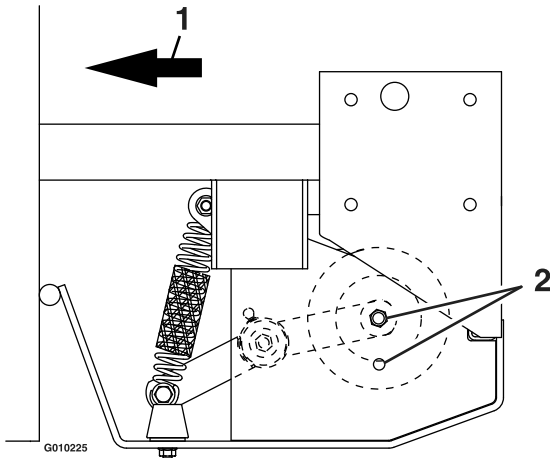
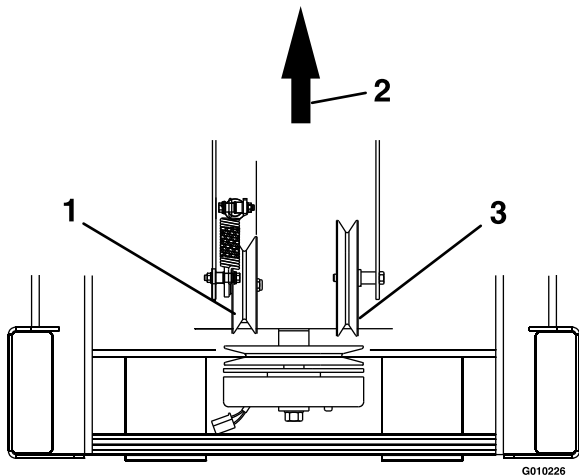

Figure 19
Figure 20
2. Check to make sure the center of the bolt head in the center of the spring loaded pulley, on left side engine deck support, is positioned between the centers of the two alignment holes in the left support plate (Figure 19 and Figure 20). It is necessary to adjust the belt tension when the center of the bolt head is at or below the center of the bottom alignment hole.